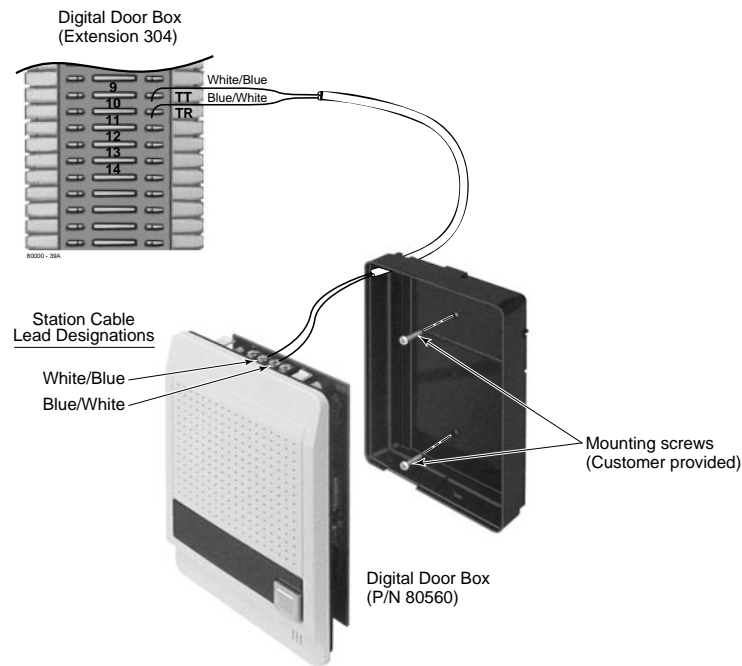

Figure 4-3: Connecting a Digital Door Box
To install the Digital Door Box (Figure 4-3):
2. Punch down one end of a two-pair twisted station cable on the extension block as shown in Figure 4-3 *Connecting a Digital Door Box* on page 4-3.